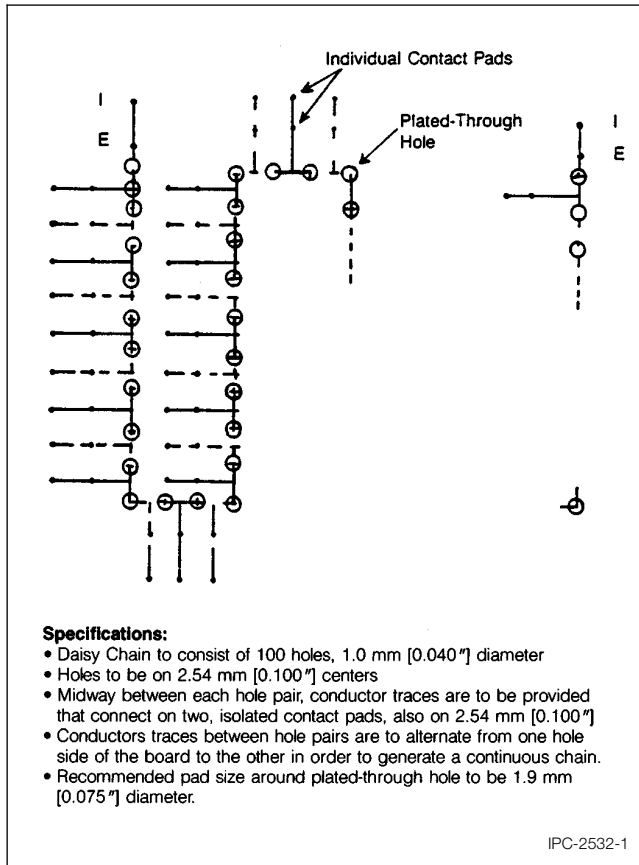

Figure 1 Test specimen artwork
3.0 Test Specimen Test specimen shall be made using identical laminate as that of finished product, and shall conform to all details of Figure 1.
5.6.1 Using four contact pads provided in artwork as in Figure 1, select two pads on each side of a pair of holes.